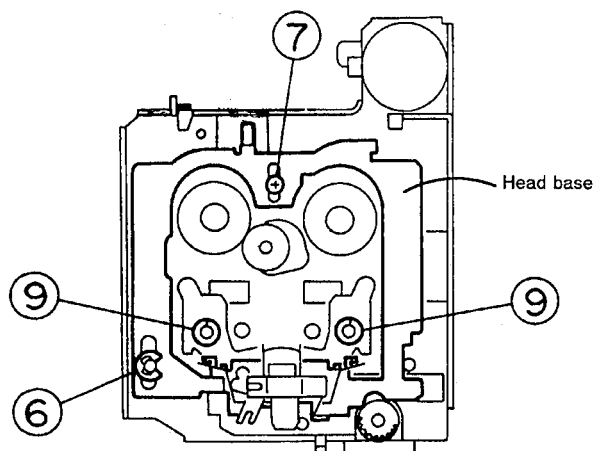
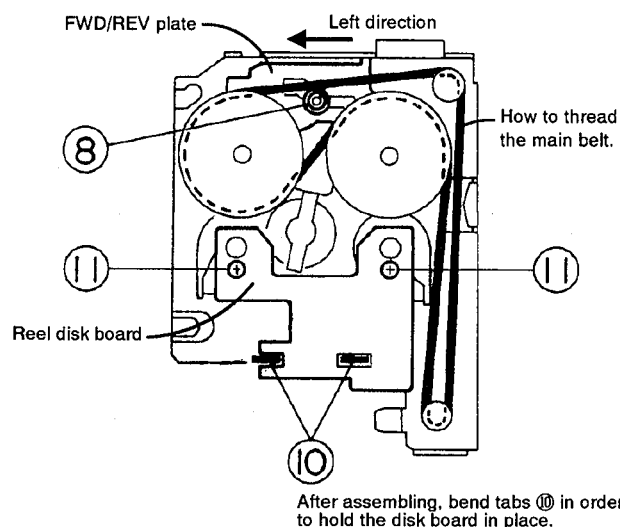
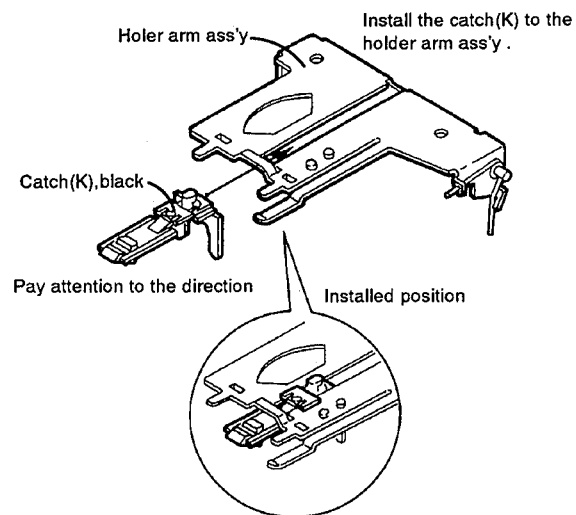

Fig. 4-17
Fig. 4-18
Fig. 4-19
■ Head base (See Figs. 4-17 and 4-18)
- 3) Remove the E washer ⑥ from the left shaft of the pinch roller.
- 4) Remove screw ⑦ for the head base.
- 5) Turn the head base upside down, then remove the C washer ⑧ securing the collar which secures the FWD/REV plate (the collar can also be removed.) (At this time, if the main belt is removed, operation will be made easier.)
■ Flywheel ass'y (See Figs. 4-17 and 4-18)
- 3) Remove two C washers ⑨ attached to the capstan shaft (remove both the right and left washers).
■ Reel disk board ass'y (See Fig. 4-18)
- 1) Straighten the bent tabs ⑩ holding the reel disk board.
- 2) Remove two screws ⑪ fixing the reel disk board.
■ How to assemble the cassette holder and sub chassis (See Figs. 4-19 through 4-22)
Step 1. How to Install the catch (K)